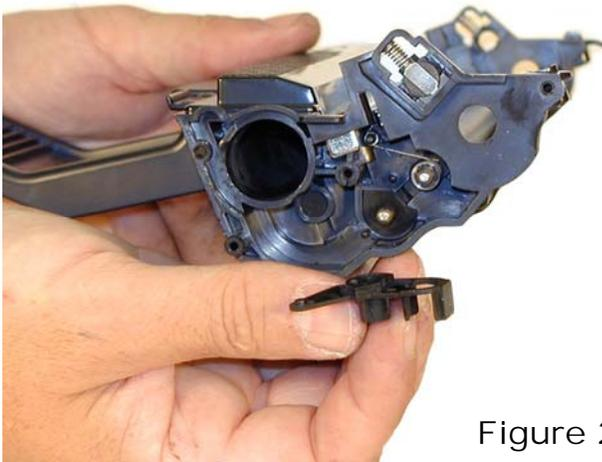

Figure 22
21) Install the roller plate. Route the tail of the spring so that it sits on top of the plate and is in contact with the shaft of the developer roller. Lock the plate in place with the tab. See **Figures 22 & 23**